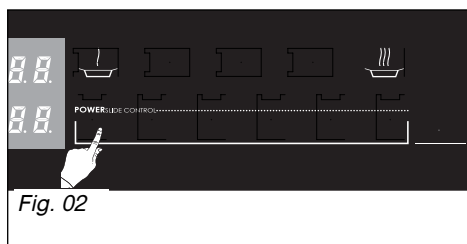

Fig. 02
- Set the new power level by sliding your finger to the left or right on the power slider as desired (Fig. 02).